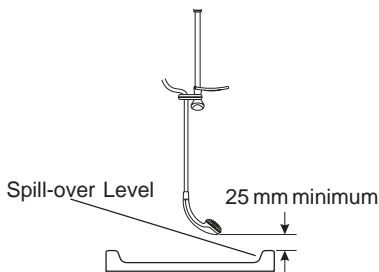

Figure 2
- 1.13. A hose retaining ring is supplied to prevent the handset from dropping below the spillover level of the bath or shower, which could lead to contamination from backsiphonage (refer to Figure 2). The supplied hose retaining ring should meet the great majority of user requirements for shower installations with flexible outlet fittings. However, there will be occasions when the hose retaining ring will not provide a suitable solution. In these instances an **outlet** double checkvalve, e.g. the Mira DCV-H, **must** be fitted. The inclusion of the Mira DCV-H will increase the required supply pressure typically by 0.1 bar. Double checkvalves, fitted in the inlet supply to the appliance, cause a pressure buildup, which could exceed the maximum static inlet pressure for the appliance.